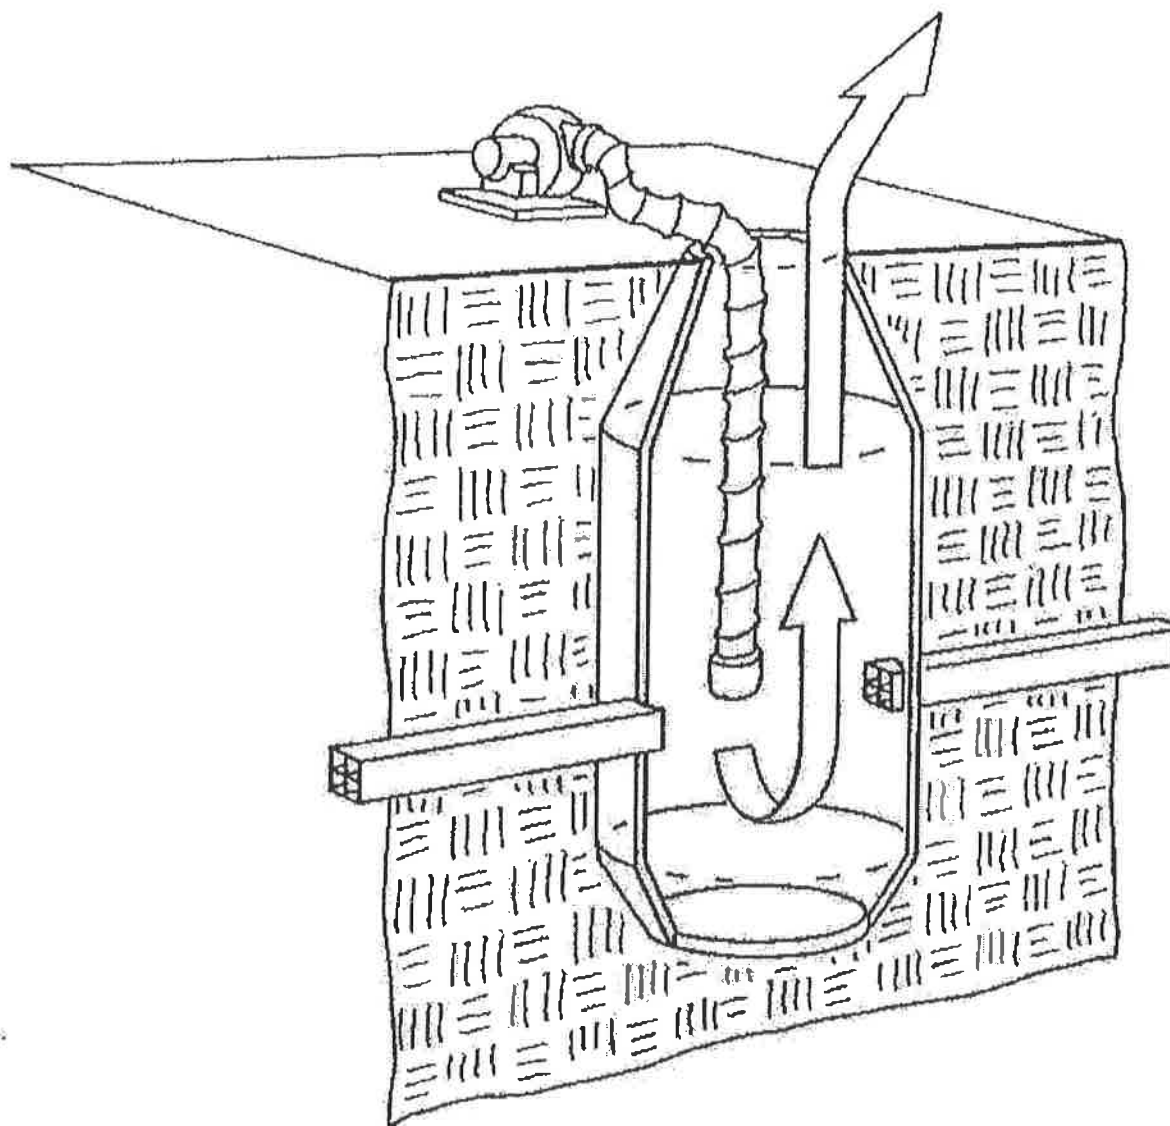

Fig 1
9.3 Position the fan four to six feet from entry point with the fan intake pointed into the wind. For eight feet from the fan intake, the area should be free from airborne contaminants and loose stones. fig1